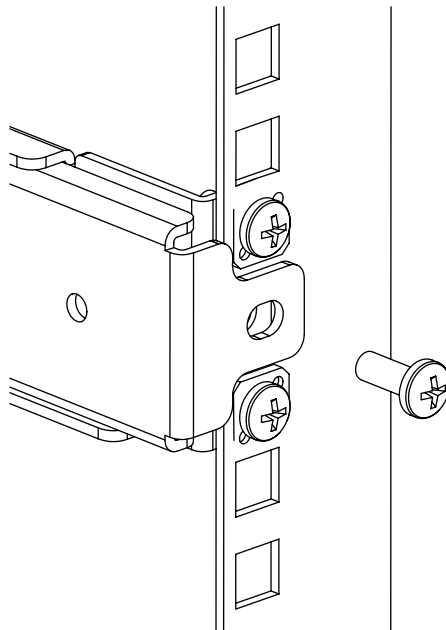
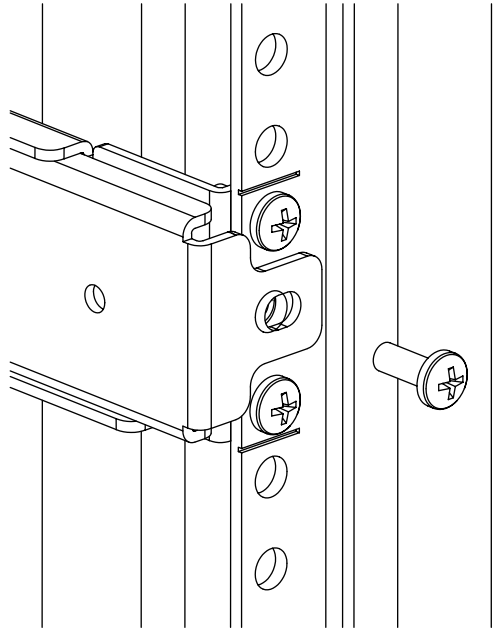

Figure 9: Securing the Device (in an HP 9000 Series, HP 10000 Series Rack))
Figure 10: Securing the Device (in an HP System/e rack)
11. Insert the device into the rack and install (2) #10-32 x 1/2-inch Phillips pan-head screws with captive star lock washers with one on each side. See Figure 9 and Figure 10.